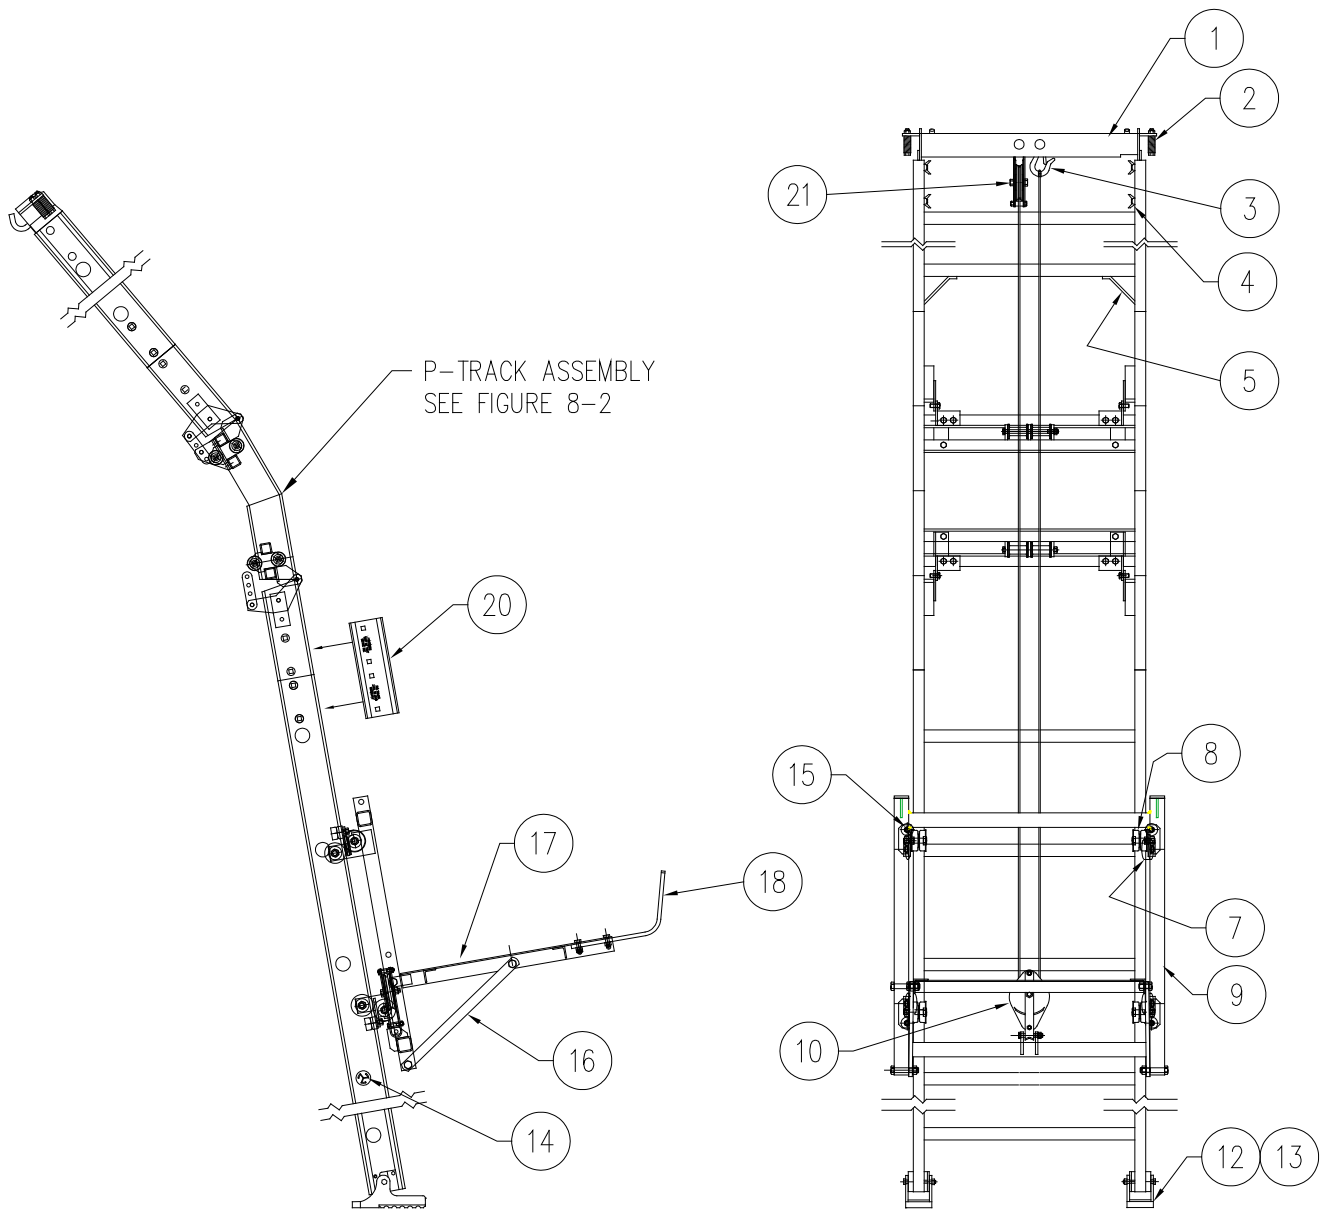

Figure 8-1.
Refer to Figure 8-1 & 8-3 for items 1 thru 21.